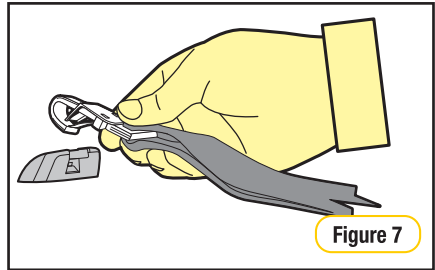

Figure 7
Step 5: Hook the attachment clip to the anchor fitting. Ensure there are no twists in the top tether strap (Refer to Figure 7)
Step 6: Check the harness tightness by the **PINCH TEST**, this is achieved by pinching the harness webbing at the shoulders (refer Figure 7)